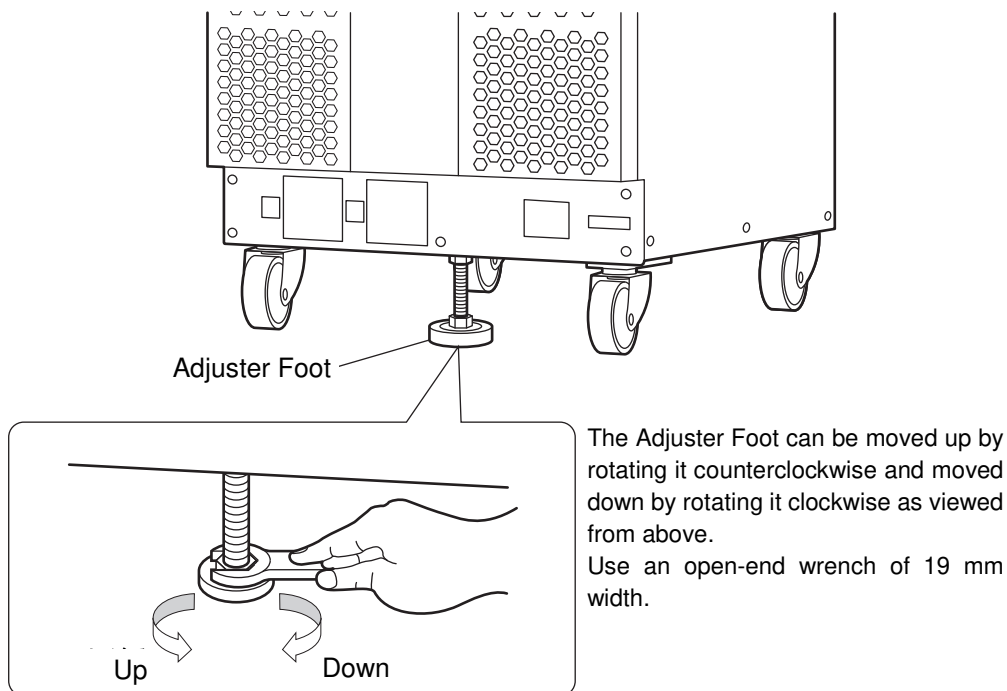

Figure 2-1 How to Use the Adjuster Foot
- Do not install this product on a sloped surface. The Adjuster Foot is only for temporary fixing, and cannot support the unit's own weight. You also must not lean on this product or use it as a support. How to use the Adjuster Foot is shown in Figure 2-1.